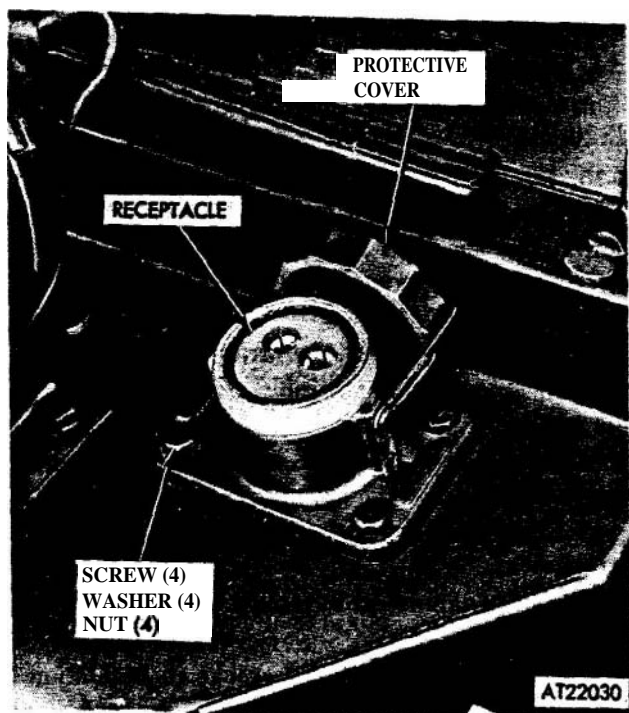

Figure 3-10. Slave cable, receptacle and protective cover.
b. Slave Cable Receptacle Assembly. The receptacle assembly consists of a connector and two cable leads. The positive lead is connected to the engine compartment terminal strip and the ground lead is secured to the chassis with receptacle attaching hardware. A hole is provided at the left front cowl for mounting of the receptacle. When cable is not installed, the hole is shielded with a cover plate secured with four screws. The receptacle is provided with a captive protective cover (fig 3-10).
f. Insert cables in cowl opening and secure receptacle (fig 3-10) to cowl using three screws, nuts, and washers. Position fourth screw through receptacle and cowl and connect negative cable to 'screw. Secure cable with nut and washer.
(4) Remove cable from branched harness clamps in engine compartment. Secure branched harness assembly with clamps.
(5) Disconnect cable from driver side panel by removing clamps and screws. Pull cable out of engine compartment through grommet.
(6) Disconnect receptacle (fig 3-10) from cowl by removing screws at top of cowl and washers and nuts at bottom. Remove cable assembly from cowl.
(7) If vehicle is to be returned to original configuration, cover hole in cowl with cover plate